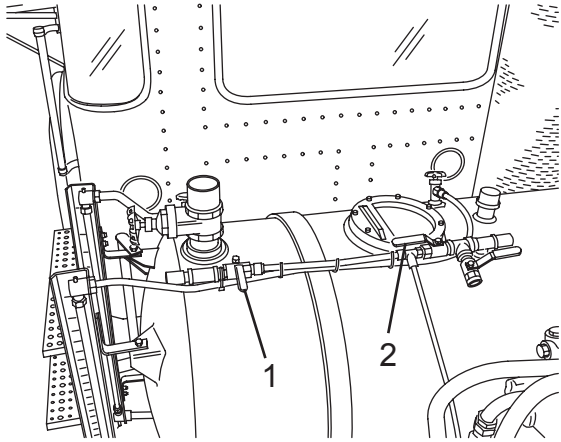

Figure 78
1. Open the air valve (Figure 78, Items 1 or 2) of the tank compartment to be pressurized. If equipped with an optional split tank, each compartment will have its own valve.